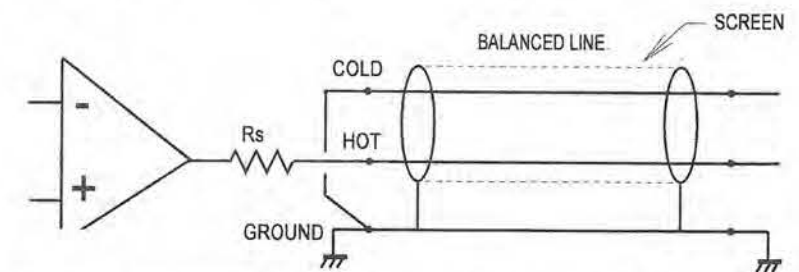

Fig. 4a. An unbalanced line output. The cold output – if it exists at all – is connected directly to ground.
**Unbalanced output.** There are only two physical output terminals – signal and ground, Fig. 4a). A third terminal is implied in Fig 4a, emphasising that it is always possible to connect the cold wire in the cable to the ground at the transmitting (output) end.
worst-case, and the cold line is simply grounded as in Fig 4a, then the presence of  $R_s$  degrades the common-mode rejection ratio to -46dB, even if the balanced input at the other end of the cable has perfectly matched resistors.